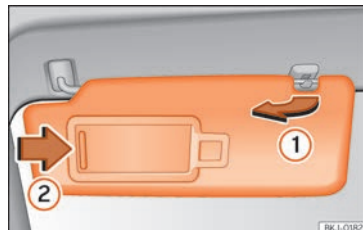

Fig. 148 Sun visor on the driver side.
- The sun visor can be pulled out of its mounting and turned towards the door >>> **Fig. 148** ①.